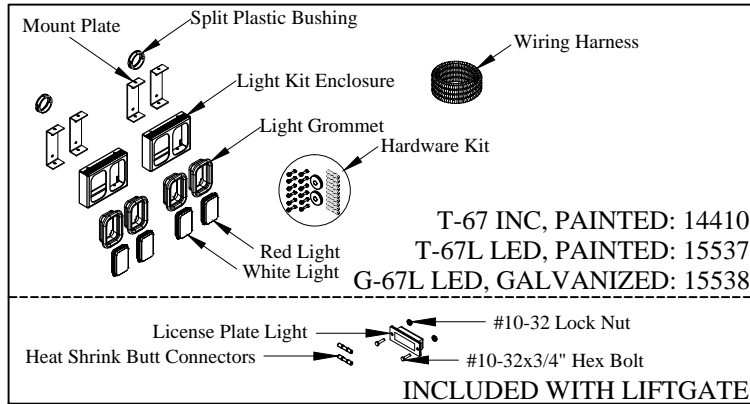

Figure 1: Part Identification
1. **Verify** kit (Figure 1, Table 1).
2. **Locate** the license plate light and mounting hardware in the maintenance manual kit (Figure 1, Table 1).